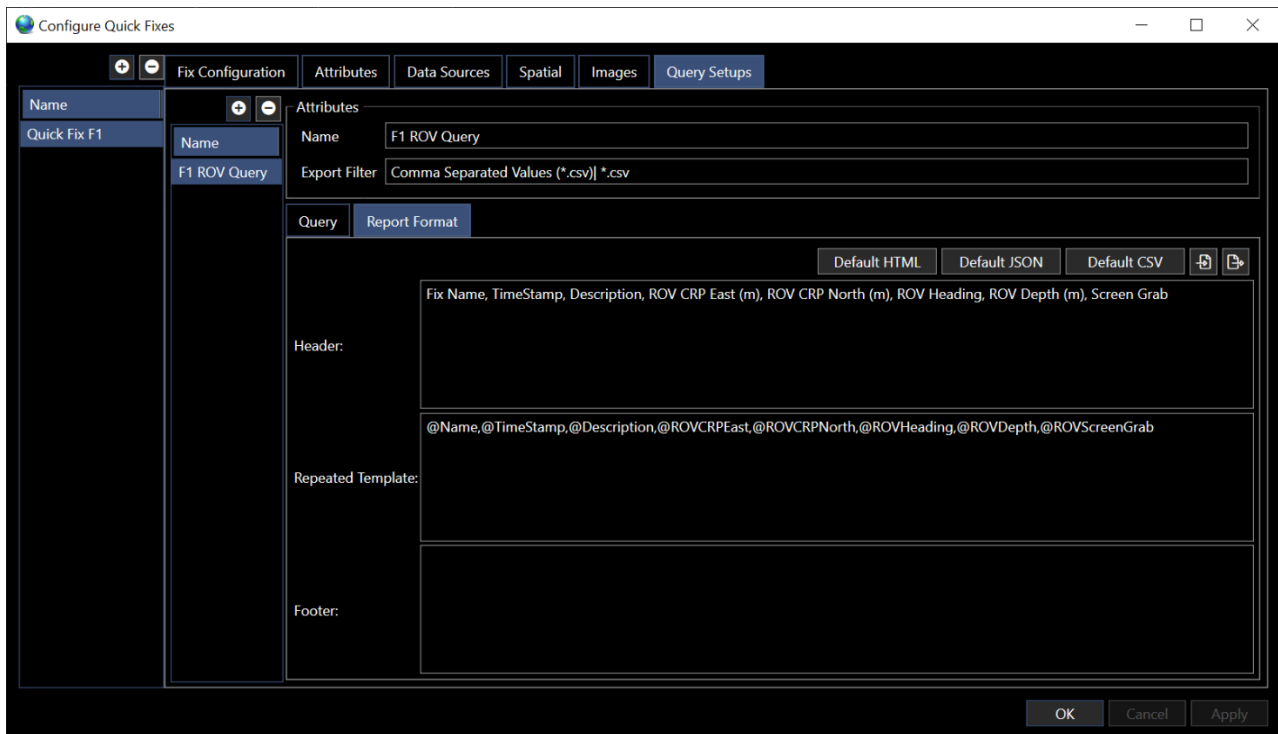
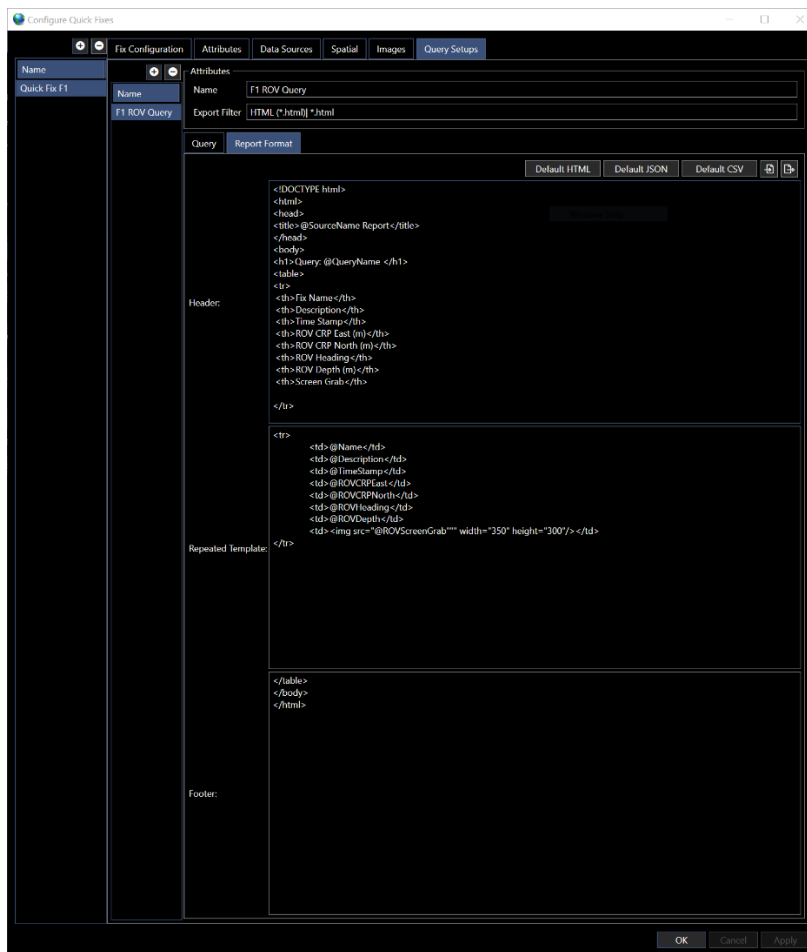

FIGURE 14-40 QUICK FIXES - CONFIGURE QUICK FIXES – QUERY SETUPS - CSV REPORT FORMAT EXAMPLE
FIGURE 14-41 QUICK FIXES - CONFIGURE QUICK FIXES – QUERY SETUPS - HTML REPORT FORMAT EXAMPLE
- b. Click on cell below **Name** to give an identifier for the video screen grab. This name is used to add the screen grab to Query Report. See Figure 14-40 and Figure 14-41 where an image is configured in the report setup